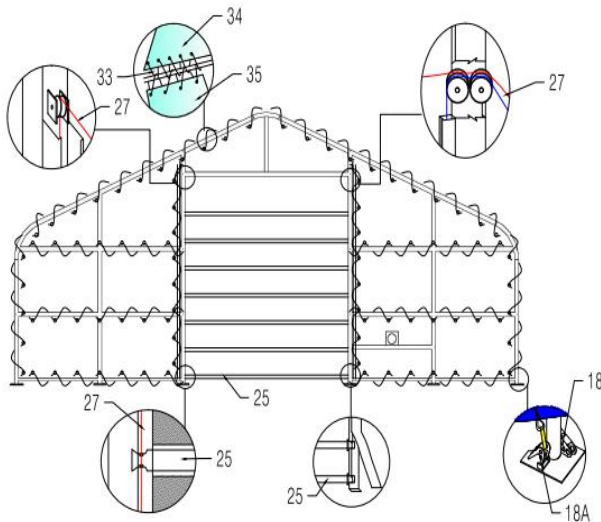

Figure 7
3. Finally put on the Front Wall Cover and knit it like the Figure 7 by using Rope. (It shows the inside of the cover).